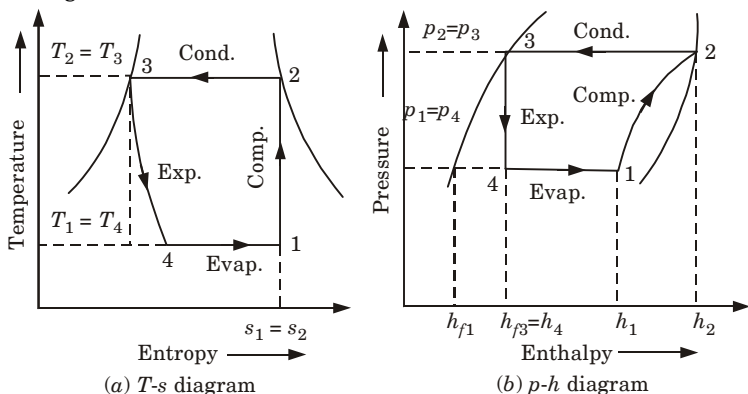

Fig. 5.11.1. Theoretical vapour compression cycle with dry saturated vapour after compression.
1. The four process of the cycle is shown on $T-s$ and $p-h$ diagrams in Fig. 5.11.1(a) and (b).